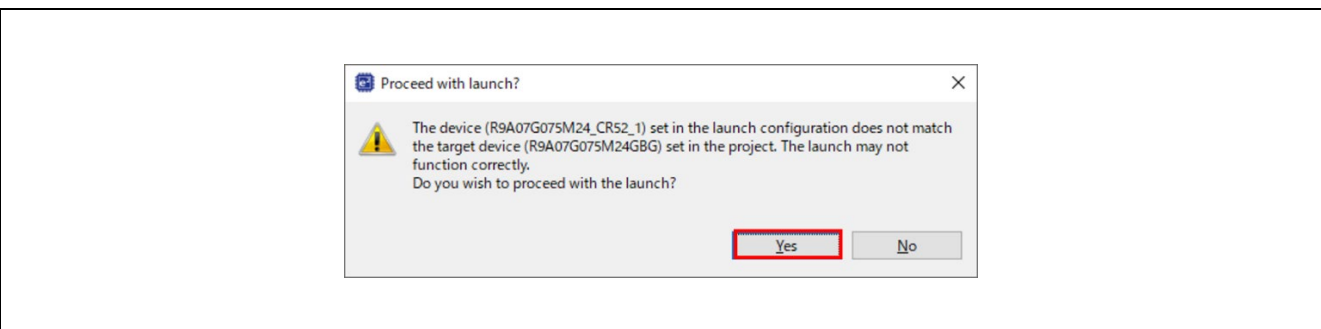

Figure 45 Warning Window of Device Name
4. When Figure 45 is shown, please click **Yes** to proceed the launch.